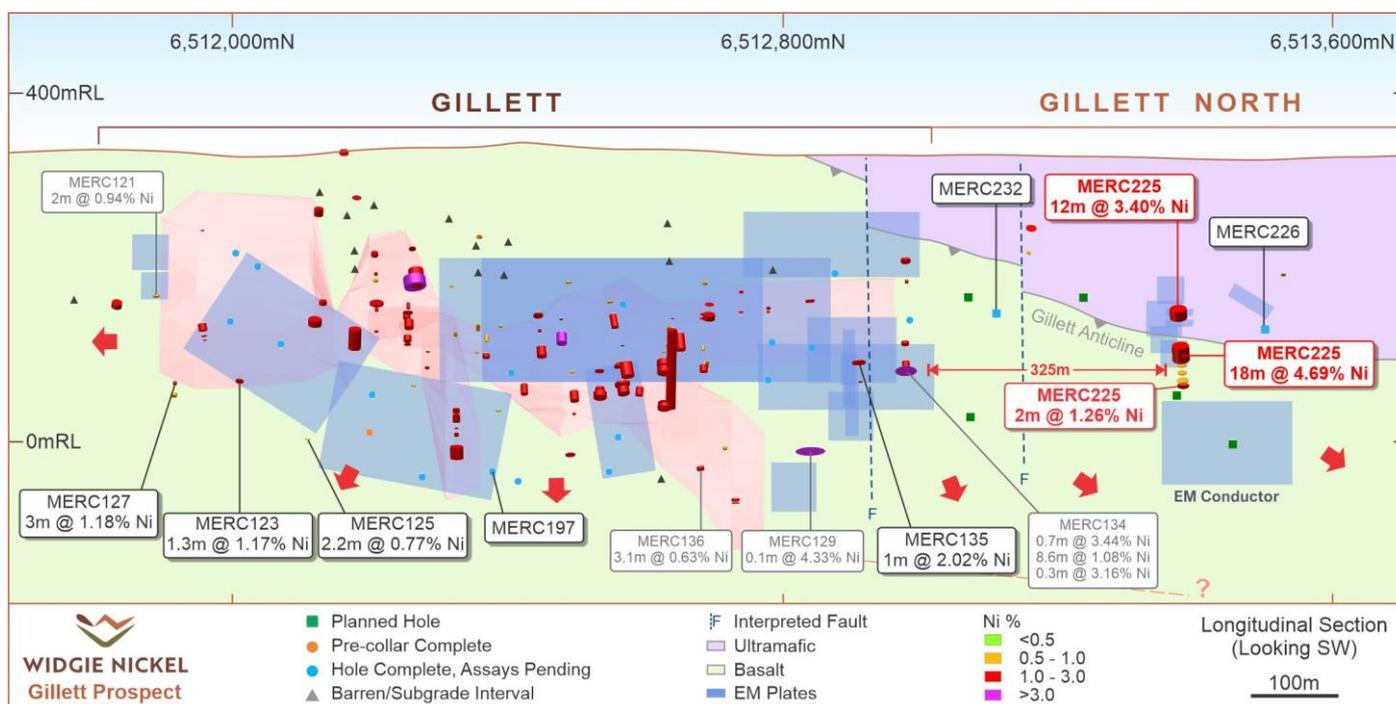
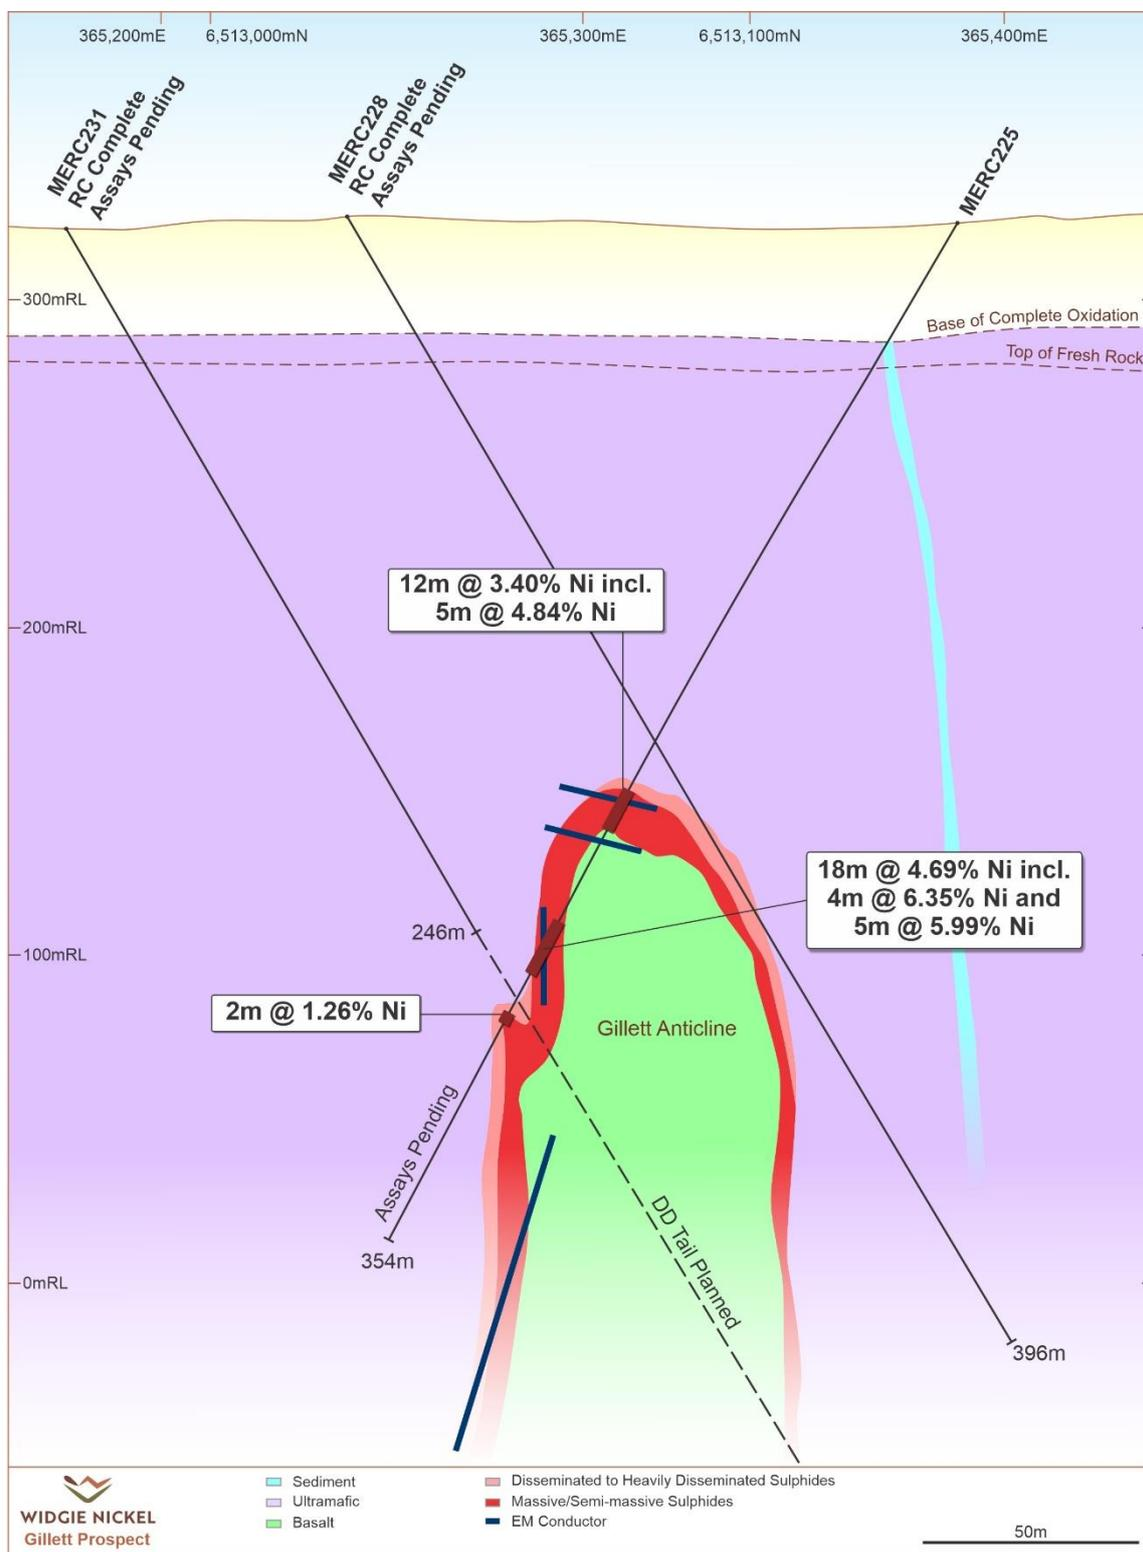
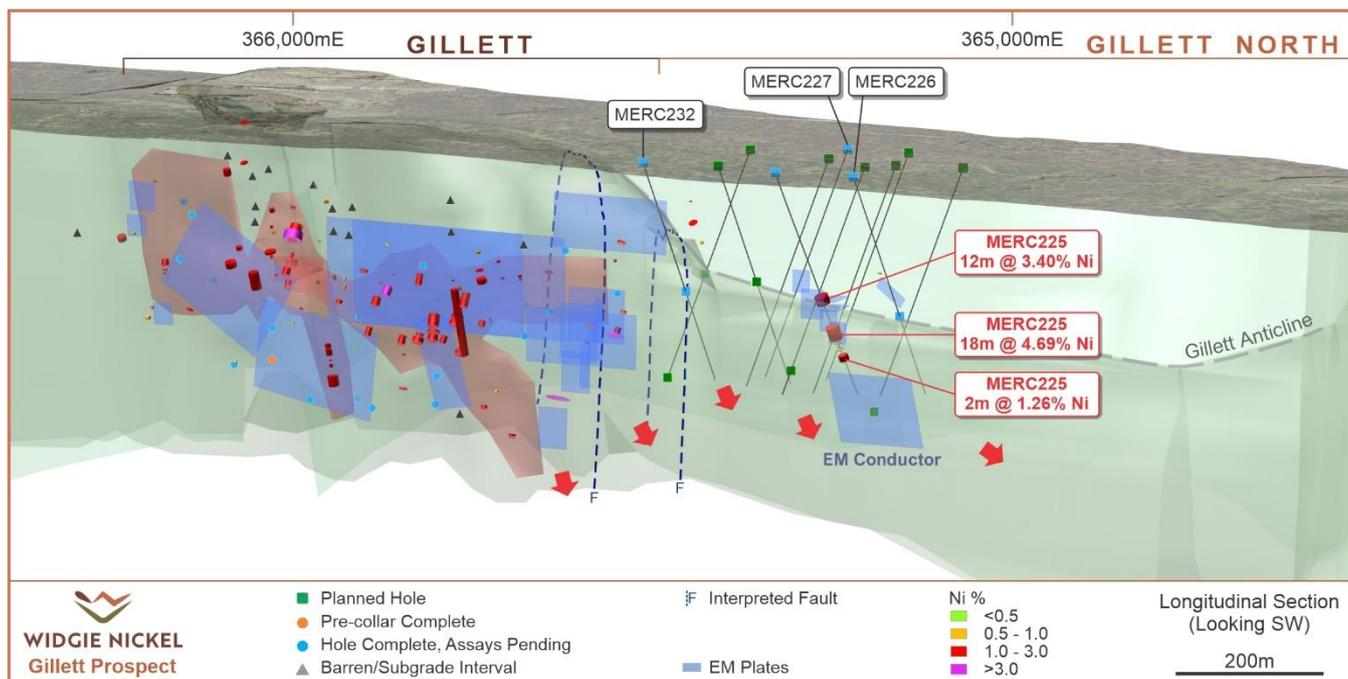

Figure 2 – Oblique long section looking south-west showing Gillett Mineral Resource, MERC225 and DHEM conductors
Figure 3 – Gillett North cross-section (looking NW), showing RC hole MERC225 and intercepts
Figure 4 – Oblique 3D view (looking south) showing the basalt footwall, DHEM conductors and additional drilling
Widgie Nickel Limited (ASX: **WIN**, "**Widgie**" or "**the Company**") is pleased to announce that the assays have been received for RC percussion hole MERC225 at the Gillett North target (refer ASX announcement 30 May 2022 - *Exploration drilling discovers new mineralisation at Gillett North*) confirming high-grade, thick massive nickel sulphides and disseminated sulphides across two intervals in a blind basal contact position (*Figure 2*).
south-east of hole MERC226. This highly conductive body in particular is significant in that it has a conductance of ~10,000 siemens which is indicative of a potential massive sulphide body (*Figure 2 and Figure 4*).
In addition, assays have been received for the Reverse Circulation (RC) and Diamond (DD) extensional and infill drilling programs carried out on the Gillett mineralisation (*Figure 2, Table 1 and Table 2*). The results continue to support Widgie’s production aspirations, with a re-estimation of the Gillett Mineral Resource expected in the September 2022 quarter.
The basalt footwall and ultramafic host unit within the Gillett to Widgie Townsite corridor has been tightly folded to produce a north-west plunging anticlinal structure. It is interpreted that all positions on the anticline have the potential to host nickel sulphide mineralisation. The nickel sulphides intersected in hole MERC225 (*Figure 2*) represents an extension of the Gillett nickel sulphide resource in a blind position approximately 150 to 200 metres below surface.
The three distinct mineralised zones observed in MERC225 are hosted within an ultramafic unit and are separated by a zone of mafic rock (*Figure 2*). As indicated in *Figure 3* below, the drillhole has been interpreted to have been drilled in or near the hinge zone of an anticlinal (fold) structure. The fold structure presents a repetition of the same basal contact of an ultramafic unit overlying a mafic basalt unit (*Figure 4*). The fold has been interpreted to be plunging shallowly to the north-west, and MERC226 has therefore been drilled in poorly or unmineralised ultramafic rock above the fold hinge (*Figure 3*).
Downhole electromagnetic surveys (DHEM) have been completed on nine holes at Gillett and two holes (MERC225 and MERC226) at Gillett North. The surveys have detected multiple conductive bodies associated with nickel sulphides at Gillett and Gillett North. DHEM completed on MERC225 and MERC226 at Gillett North have identified a very strong conductive body of ~10,000 siemens which is indicative of a massive sulphide body (*Figure 2 and Figure 4*). Diamond drilling will be planned to intersect this conductive body in the forthcoming weeks.